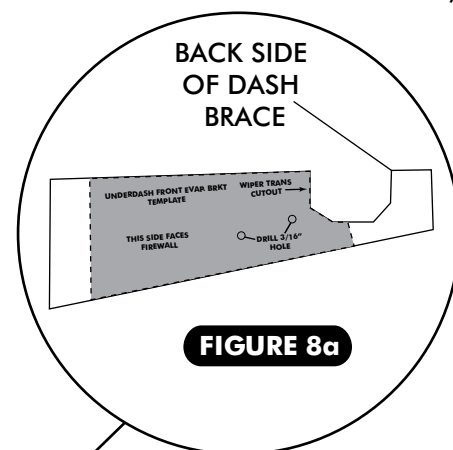

FIGURE 8a
- ☐ USING TEMPLATE PROVIDED ON PAGE 23, DRILL (2) 3/16 HOLES IN DASH BRACE AS SHOWN BELOW IN FIGURE 8a.